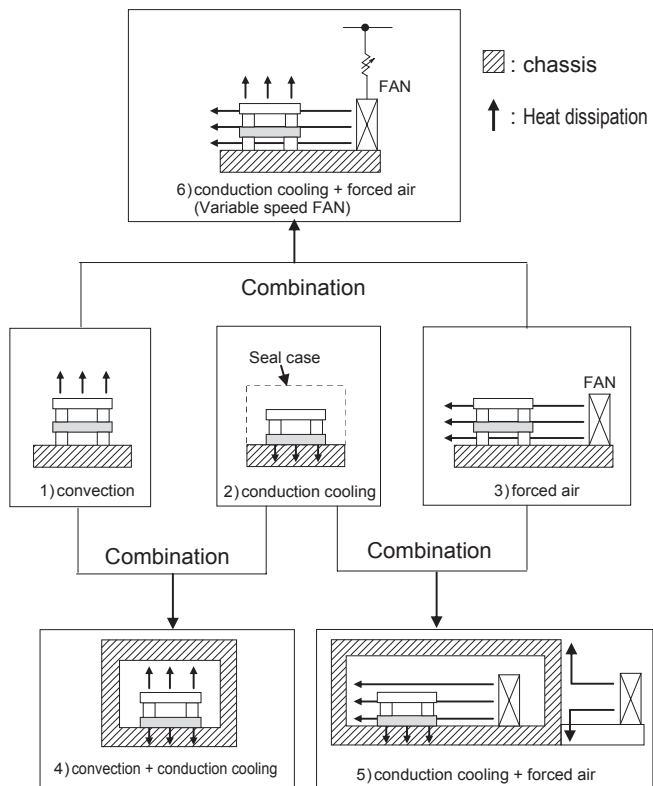

Fig.3.1 Cooling method Combination
- Both Forced air and convection cooling are available. (Fig 3.1 1),3),6)cooling method).
- GHA500F series can achieve the efficient heat dissipation by combining Conduction cooling and Forced air cooling. However, if the cooling fan stops due to the fan failure or other reason, Over Temperature Protection may not be activated due to the conduction cooling, and then the components temperature which are cooled by forced air (①, ②, ③ and ④ shown in table 3.1) would become high. Please ensure fail safe function of your product, and consult us for more details.